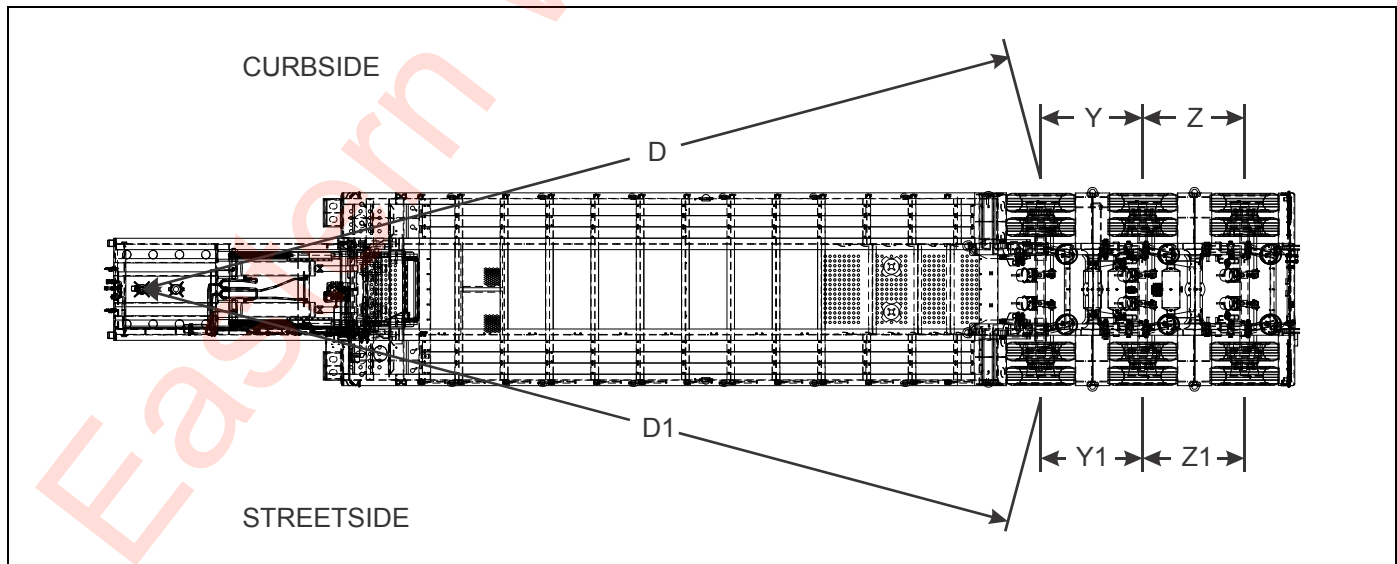

Figure 4-8: Checking Axle Alignment
4. Measure (D) from the plumb bob to the center point on one end of the axle. Record this measurement (See Figure 4-8.)
5. Measure (D1) to the other end of the axle in the same manner as in **step 4**. Record this measurement (See Figure 4-8.)